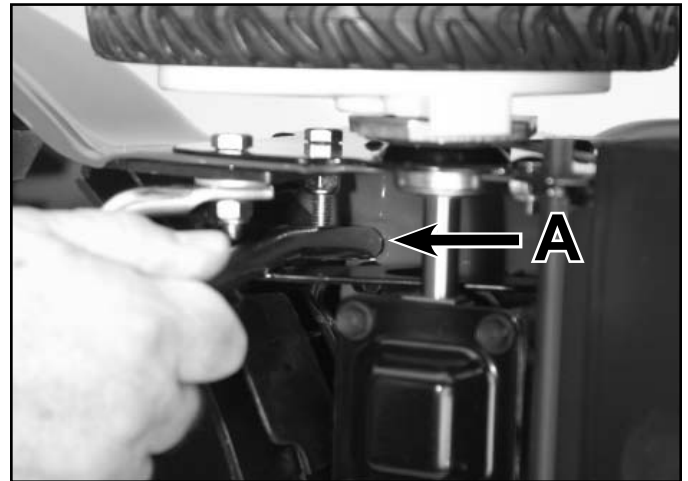

Fig 064
6. Slide the cable tool over the end of the cable and push (Fig. 064). At the same time, reach around the mower and pull the cable out of the housing.